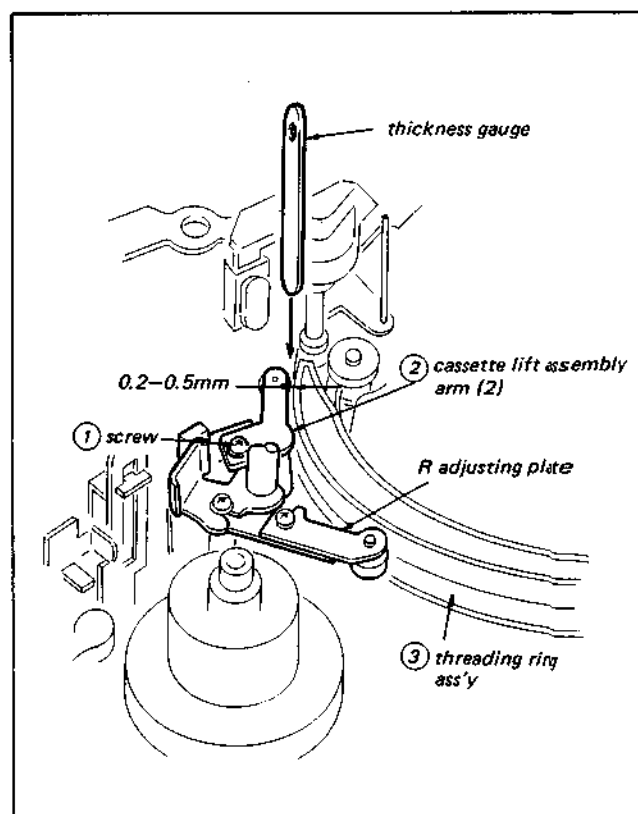

Fig. 3-24. Clearance adjustment of cassette lift assembly arm
- Since a poor adjustment of the clearance causes the condition that the cassette lift assembly arm ② is in strong contact with the threading ring assembly ③, the threading and unthreading cannot always be performed smoothly. When the clearance is larger than the specified value, the lock of the cassette lift assembly comes loose and the cassette lift assembly lifts during the unthreading, damaging the tape.
2. Loosen screw ① and adjust the position of the cassette lift assembly arm ② with the thickness gauge so that the clearance between the cassette lift assembly arm ② and the threading ring ③ satisfies the specification (0.2 mm to 0.5 mm). (See Fig. 3-24.)